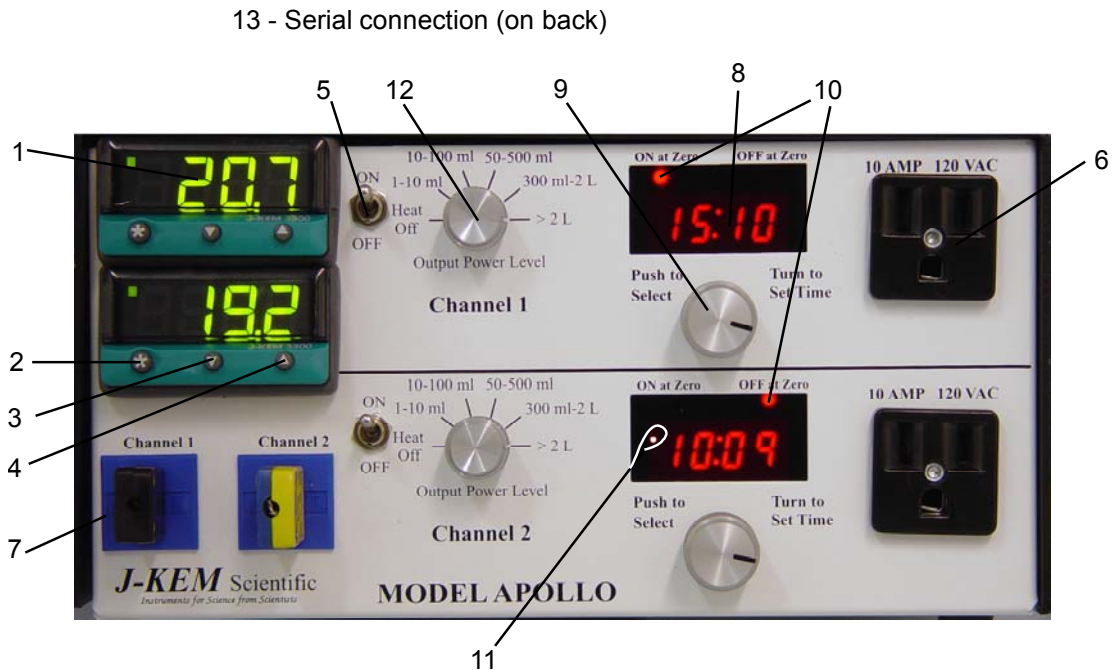

Figure 1
3.4 Temperature Sensor Input. Every controller is fitted with a specific *type* of thermocouple input and can only be used with a thermocouple of the same type. For the correct temperature to be displayed, the thermocouple type must match the receptacle type on the front of the controller (Figure 1; # 7). All thermocouples are color coded to show their type (Blue = type T; Yellow = type K; Black = type J). The color of the thermocouple plug must match the color of the receptacle on the front of the controller. If the thermocouple is broken or becomes unplugged, the error message “**inPt**” “**FAiL**” blinks in the temperature meter display and the controller stops heating.